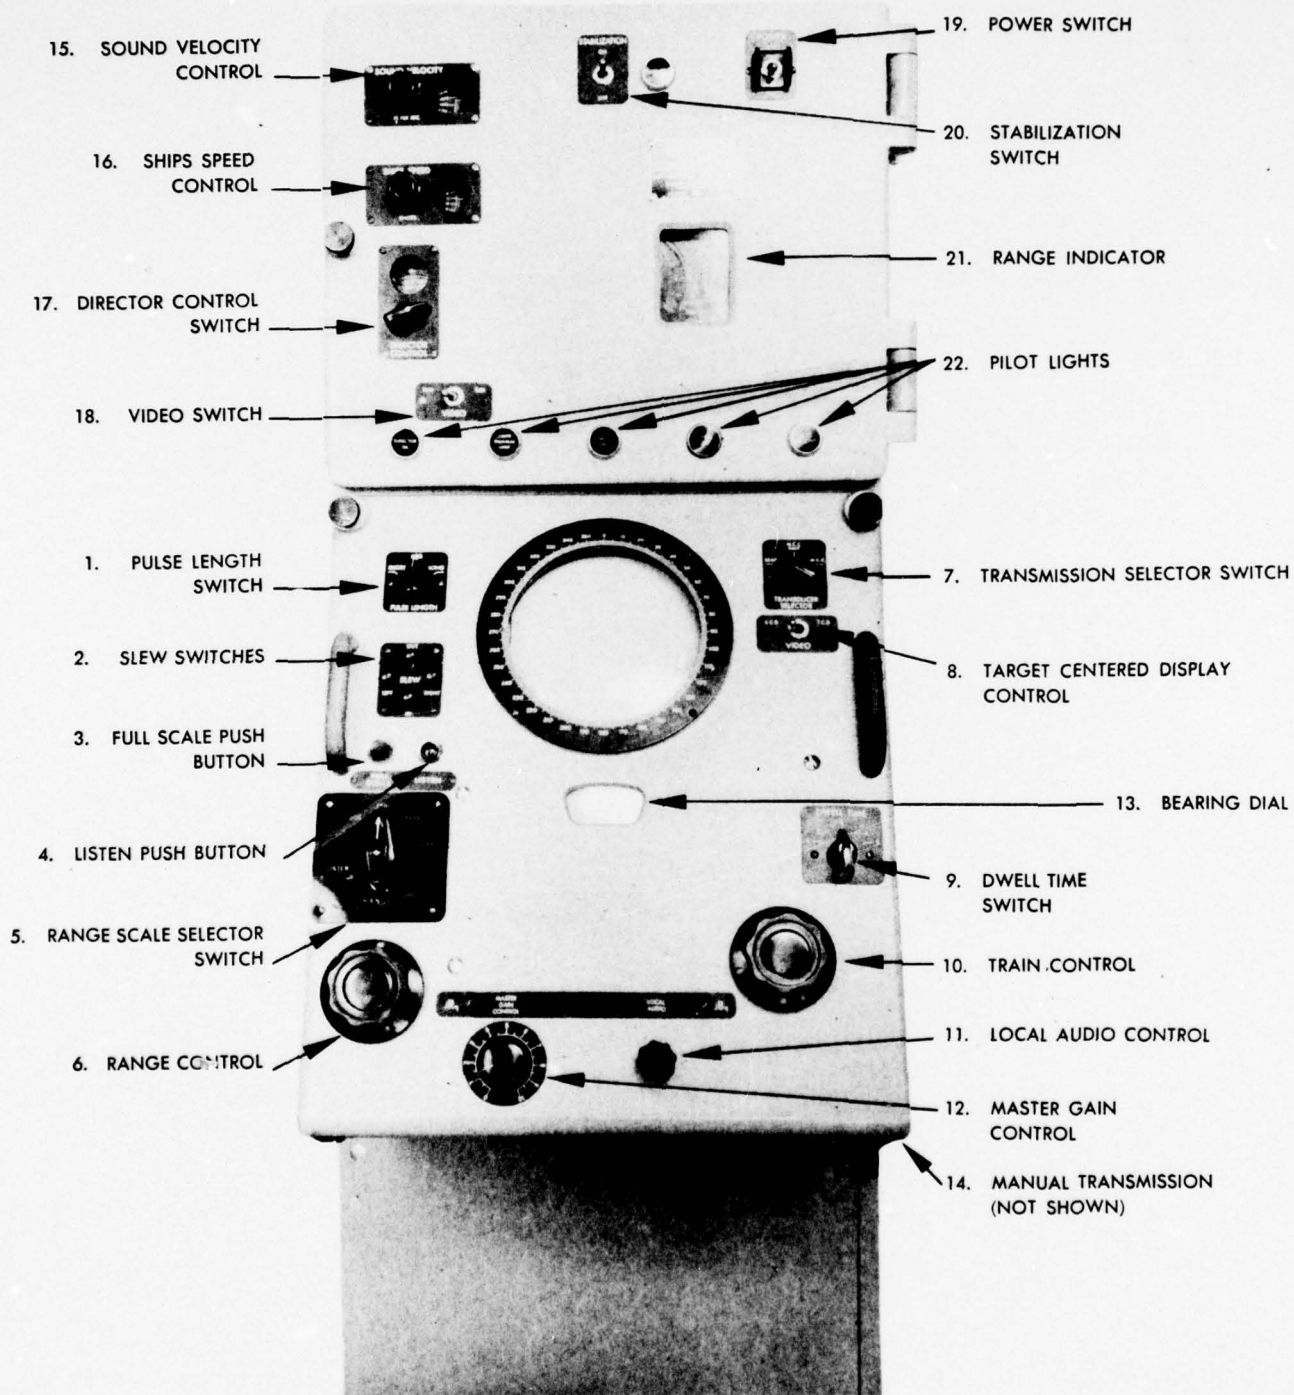

Figure 1
Altogether there are nineteen external controls, two dials, six pilot lights, and the scope on the AN/SQS-4 Control Indicator. To provide a more complete understanding of the operator's tasks these controls and indicators are listed below with a brief description. See Figure 1.
14. Manual Transmission - This control, not shown in Figure 1, is located on the right side of the console. This permits underwater communication when the range scale selector is in Listen position.